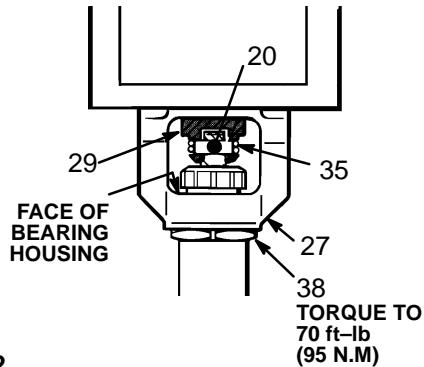

Fig 30-2
12. Screw the displacement pump 3/4 of the way into the bearing housing (27). Hold the pin (20) up to the pin hole in the connecting rod (29). Screw in the pump until the pin slides easily into the hole. Back off the pump until the top threads of the pump cylinder are flush with the face of the bearing housing and the outlet adapter (A) is facing back. Push the retaining spring (35) into the groove all the way around the connecting rod. Tighten the locknut (38) very tight – about 70 ft-lb (95 N.m) – with a 2 in. open end wrench and a light hammer. See Fig 30-2.
Be sure the retaining spring (35) is firmly in the groove all the way around, to prevent the pin (20) from working loose due to vibration. See Fig 30-2.